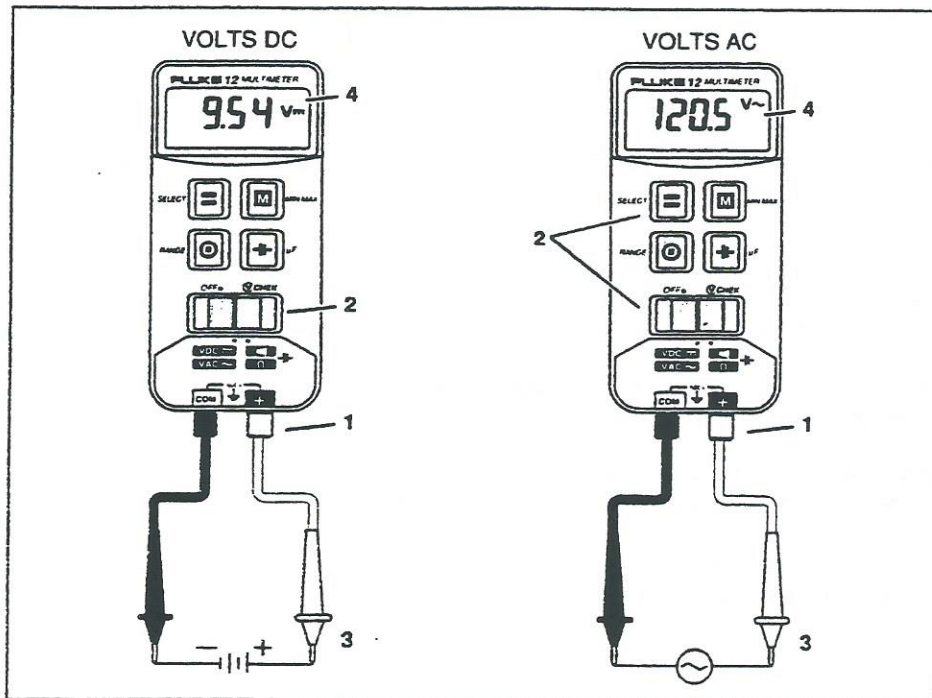

Figure 3. Measuring Voltage
2. To select a voltage function, put the slide-switch in the middle position. See Figure 3.